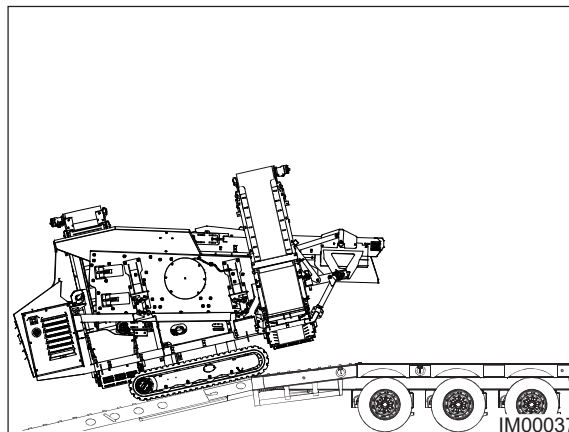

Fig: 7.1 - Transporter
6. Slow and carefully remove the machine from the transporter (Fig: 7.1).